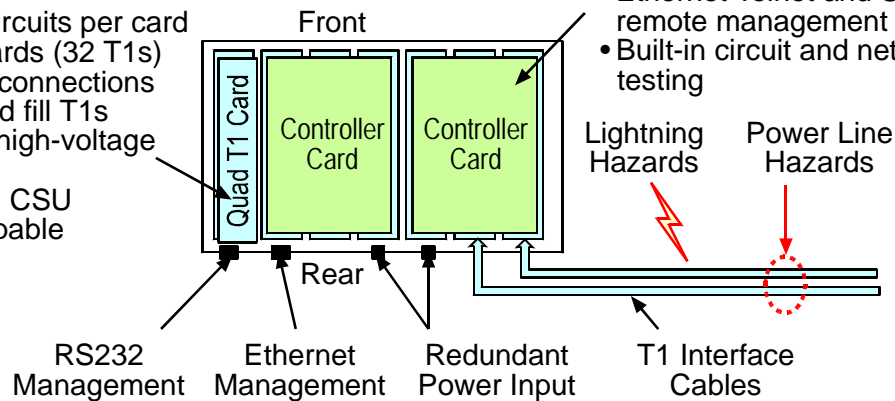

Figure 2-4. Access Navigator Hardware Configuration
- Hardware configuration: Modular construction with plug-in cards includes built-in circuit and network testing and fuse-less protection (see Figure 2-4).